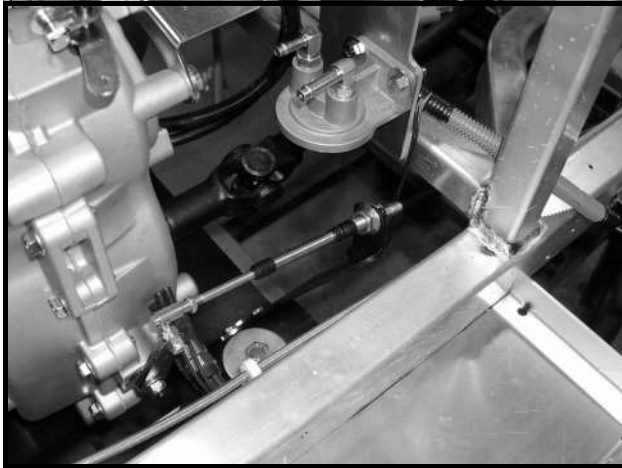

Figure 14-24 Forward/Reverse Shifter Cable at Transmission
15. Remove the transmission Forward/Reverse shifter cable ball socket from the ball on the transmission shifter arm (**Figure 14-24, Page 14-17**).
8. Secure the Forward/Reverse shifter cable ball socket to the ball on the transmission shifter arm (**Figure 14-24, Page 14-17**). **See following NOTE.**
10. Disconnect the cable ball socket from the shifter ball stud on the transmission shifter arm (**Figure 14-24, Page 14-17**).